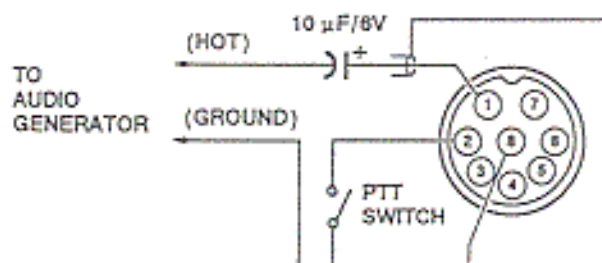

Figure 6-13 Microphone jig
- Plug the microphone jig shown in Fig. 6-13 into the microphone jack (JD61). Press the PTT switch and set to the TX mode.
- Plug the microphone jig shown in Figure 6-13 into the microphone jack (JD61). Press the PTT switch and set to the TX mode.